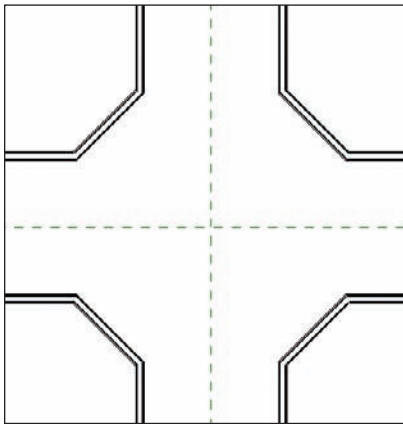

FIGURE 2.47 The open corridor
- Repeat the process for the other three walls. You should now have an open central area for your corridor, as shown in Figure 2.47.